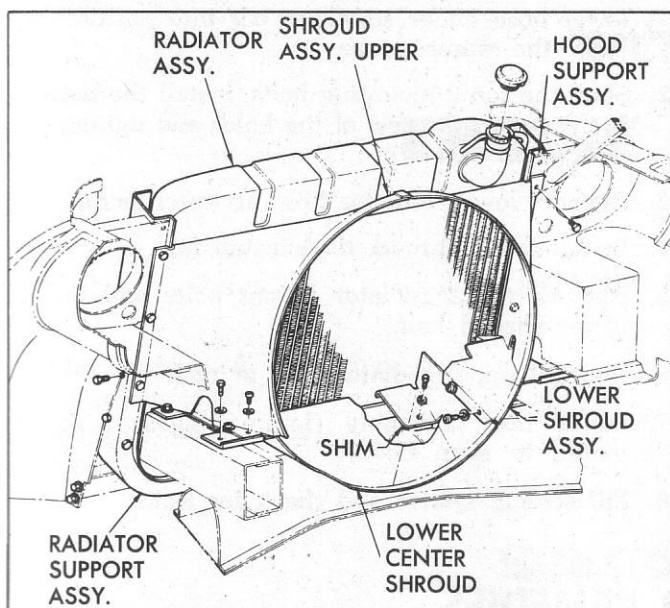

Fig. 5—3-Piece Lower Shroud
- b. one side only of 3-piece unit (3 screws) (Fig. 5).
- b. Separate 3-piece shroud into 2 sections at right side then remove it (fig. 5).